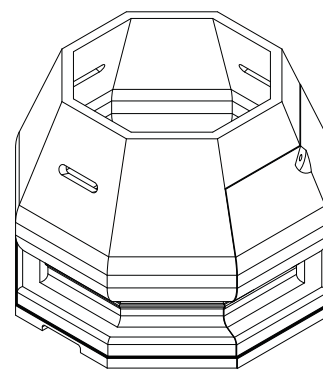

Fig. 17-1 Three-piece models: place base
1. **CAREFULLY** place the base in an appropriate location (see Fig. 17-1, and refer back to the LOCATION section if needed).